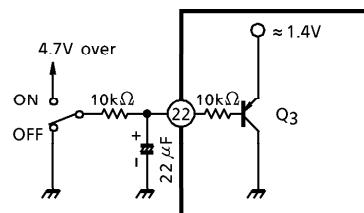

Fig.4
Pin⑫ is coupled to the base of Q₃ (PNP-Tr) through 10kΩ resistance as shown in Fig.4.